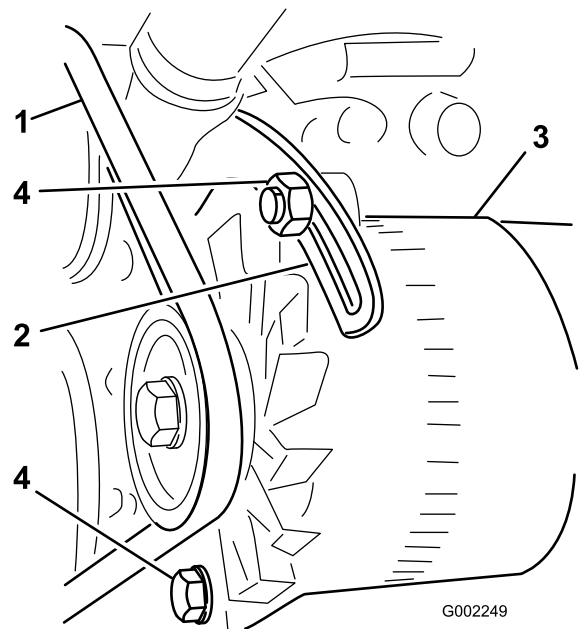

Figure 69
3. Loosen the bolts that secure the brace to the engine and the bolt that secures the alternator to the brace (Figure 69).